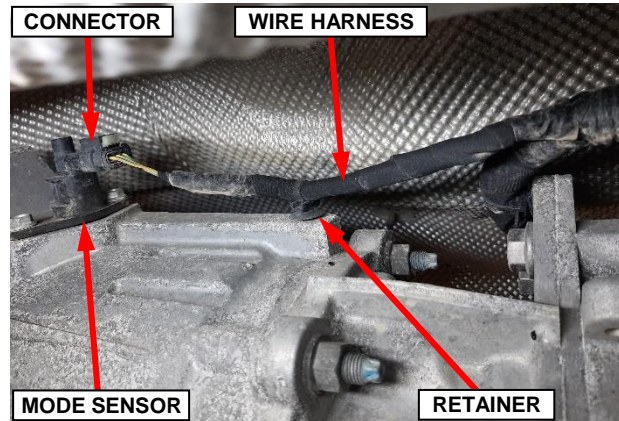

Figure 15 – Transfer Case Shift Mode Sensor Wire Harness Connector
20. Disconnect the wire harness connector from the transfer case mode sensor and release the wire harness retainer from the transfer case (Figure 15).
11. Connect the wire harness connector to the transfer case mode sensor and attach the wire harness retainer to the transfer case (Figure 15).